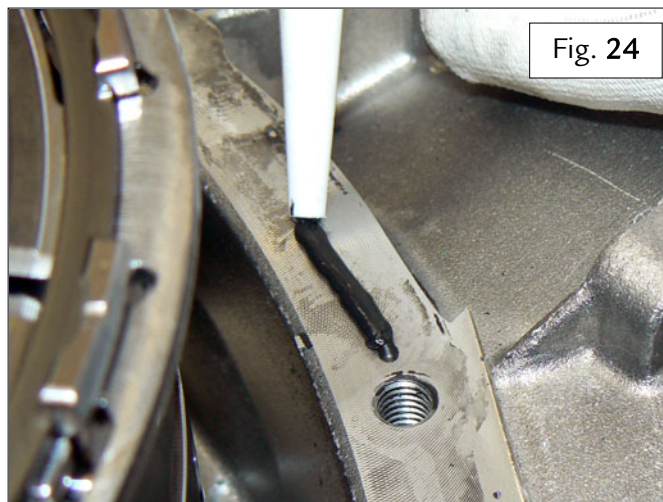

Fig. 24
- Apply a continuous bead of **Loctite 5970** to the outer mating surface of the differential housing on the connector casing side – Fig. 24.